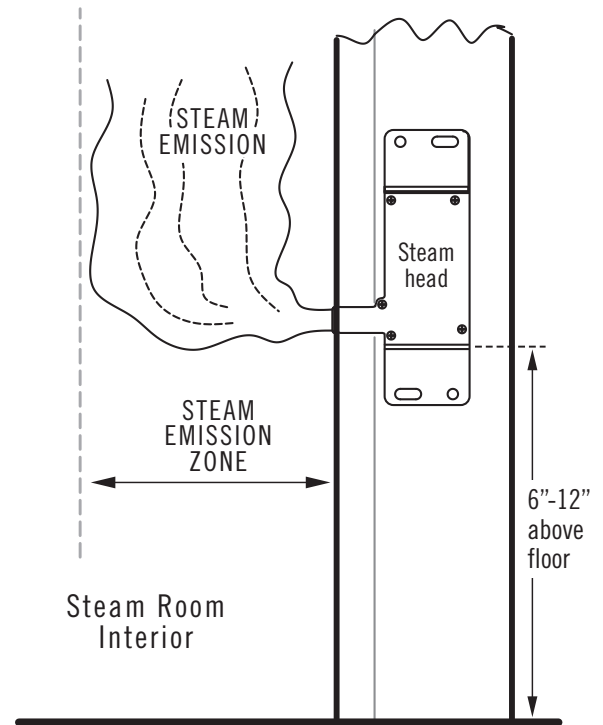

Figure 2
⚠ CAUTION Because steam emissions are very hot, locate the steam head where incidental contact by the bather with direct steam emission cannot occur. Do not locate the steam head in any location where the steam emission zone is near a seat, bench or any space occupied by any persons. See Fig. 2 for a diagram of the steam emission zone. Failure to follow these instructions may result in a hazardous condition, scalding or personal injury.
STEP 1. Locate the steam head 6-12" above the finished floor. Do not locate the steam head in any location where the steam emission zone is near a seat, bench, or any space occupied by any persons. See Fig. 2 for a diagram of the steam emission zone.